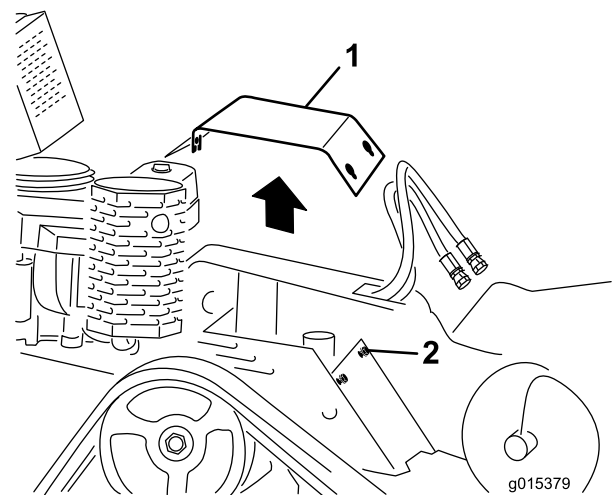

Figure 21
4. Loosen the 3 bolts securing the cover plate to the frame sequentially until the cover is loose (Figure 21).
6. To install the cover plate before operating the machine, slide the plate into place and secure it with the 3 bolts you loosened previously (Figure 21).